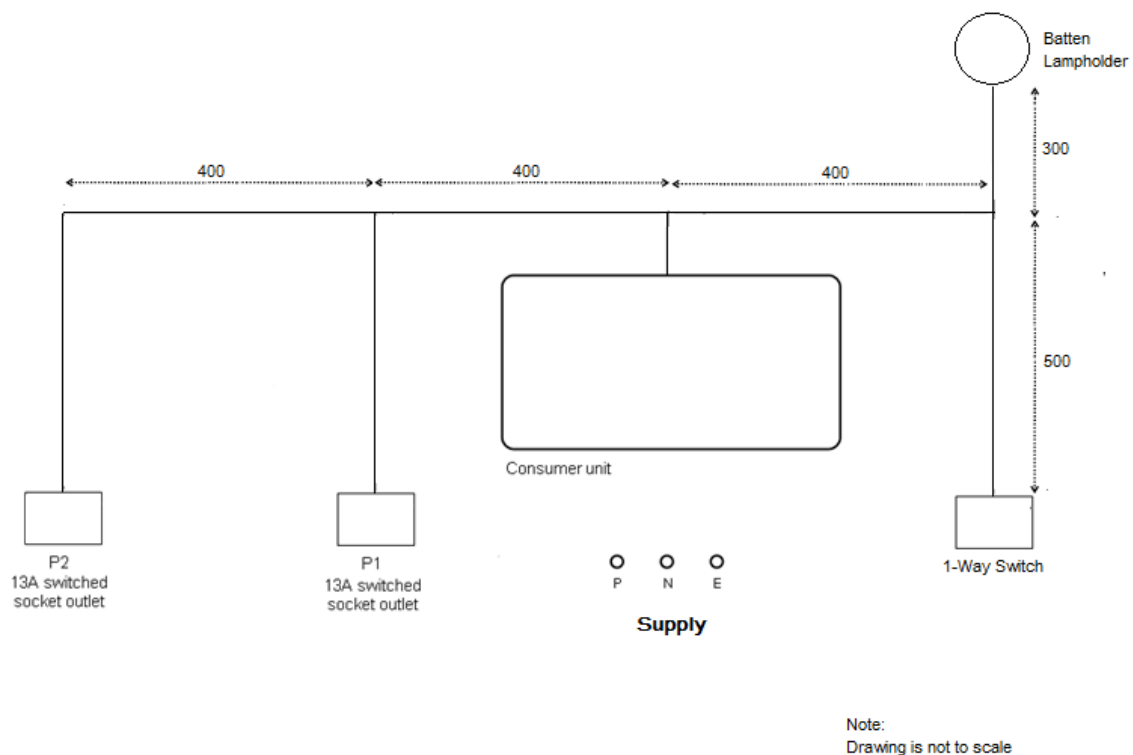

Figure 1
Steps/Procedure: <ol style="list-style-type: none"> 1. A shop owner engaged the service of your company to carrying out the following extension wiring project (installation) in his office showroom. 2. You are tasked by your supervisor to carry out installation of trunking together with your colleague. On completion of the installation, you are required to measure the layout and to check with leveler. 3. The layout of the installation is to be finalized as in Figure 1.
Steps/Procedure: 1. A shop owner engaged the service of your company to carrying out the following extension wiring project (installation) in his office showroom. 2. You are tasked by your supervisor to carry out installation of conduit together with your colleague. On completion of the installation, you are required to measure the layout with leveler. 3. After some discussions with your colleague, the layout of the installation is finalized as in Figure 1.
Steps/Procedure:	<ol style="list-style-type: none"> 1. A shop owner engaged the service of your company to carrying out the following extension wiring project (installation) in his office showroom: <ol style="list-style-type: none"> a. A Lighting & Radial Final Circuit Incorporating a Consumer's Control Unit 2. You are tasked by your company to carry out this installation together with your colleague. On completion of the installation, you are required to test and commission the installation by conducting continuity test and insulation resistance measurement and testing the functionality of the final circuits. 3. After some discussions with the owner, the layout of the installation is finalised as in Annex A, Figure 1
- Figure 1 is the layout drawing of the installation.